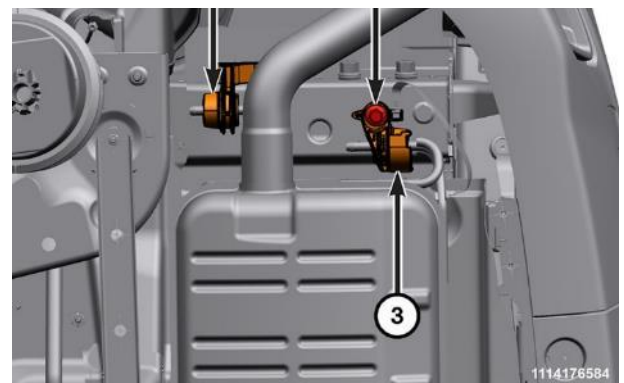

Figure 33 – Exhaust Isolators
10. Remove the two left front exhaust isolator bolts (Figure 33).
11. Remove the left rear exhaust isolator bolt (Figure 33).